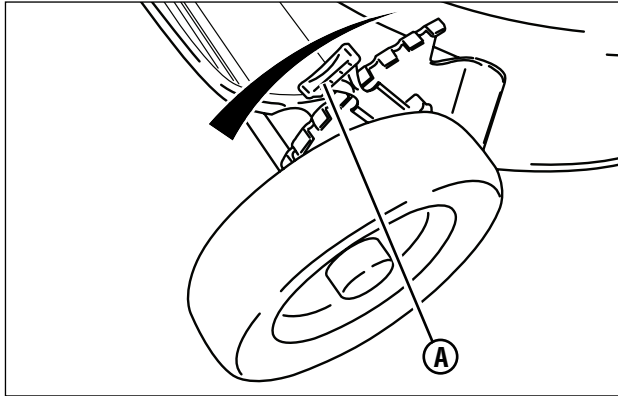

Figure 7: Adjusting cutting height
1. Pull the height adjusting latch (**A, Figure 7**) outward and move to the desired cutting height.